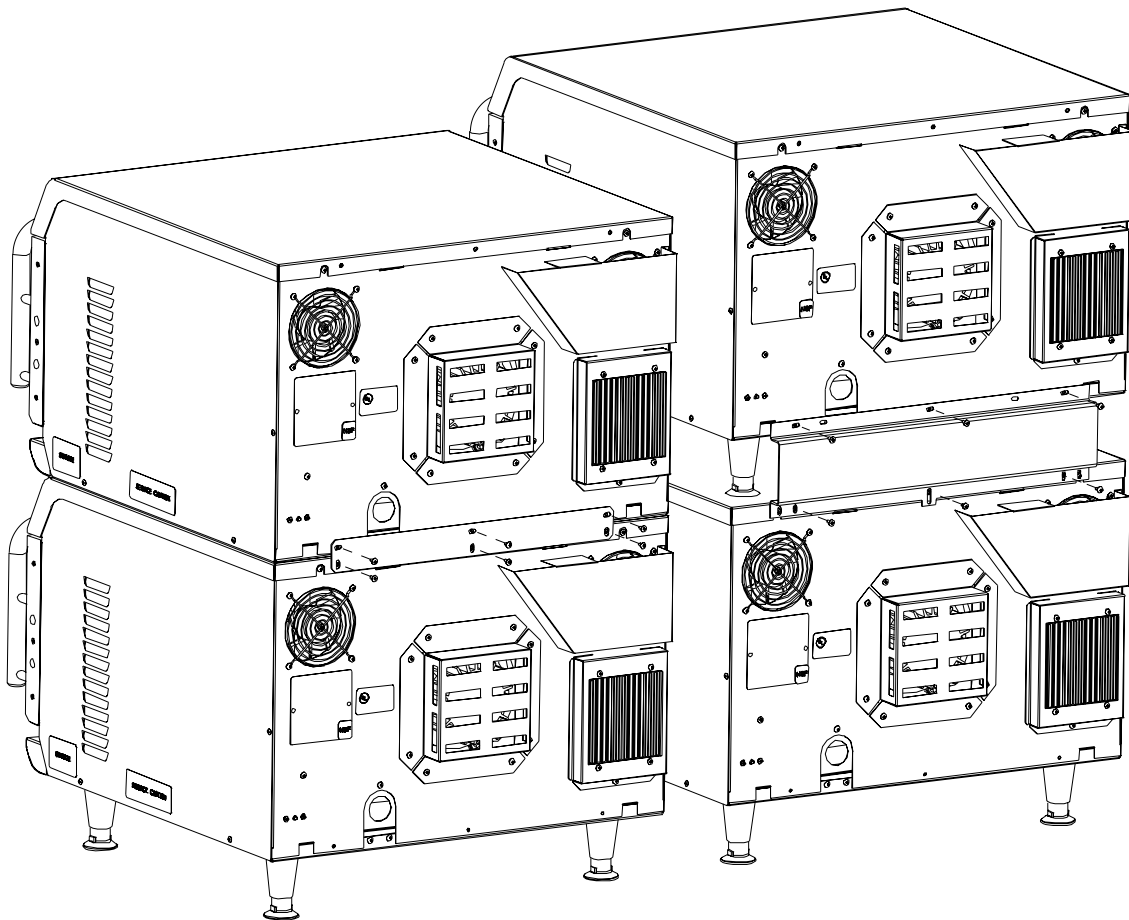

FIGURE 3: Stacked HHB 2 Ovens (Two Configurations)
Kit HHB-3229 includes both stacking brackets illustrated in Figure 3.
4. Attach the stacking bracket to the back of the bottom oven using the existing oven screws as shown in Figure 3.
5. Remove the screws from the top oven, as shown in Figure 3.
☐ Lift and pull the filter latch out until the filter and bracket lie flat (Figure 3).